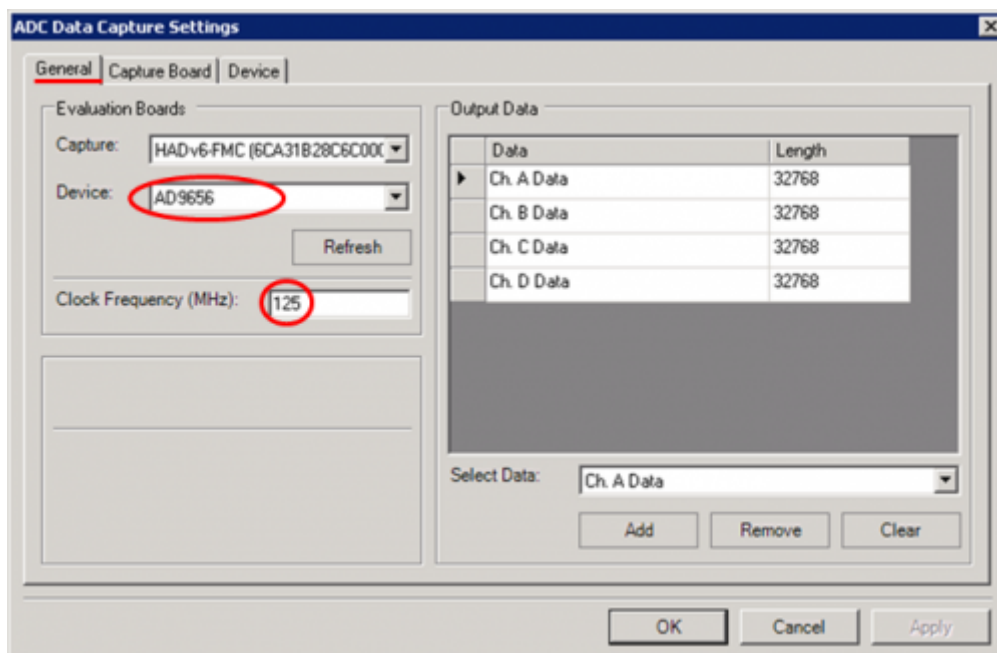

Figure 8. VisualAnalog ADC Data Capture Settings Window, General Tab
5. In the ADC Data Capture Settings Window, General Tab, select AD9656 to be the device, enter the sample clock frequency (125 is the default value), as shown in Figure 8. The sample frequency entered here is used for scaling of frequency values in test results and graphs. In the Output Data field, the channels to be tested are selected, as well as the FFT capture depth ("Length"). Note that the total of the capture depths for all selected channels cannot exceed 256k.